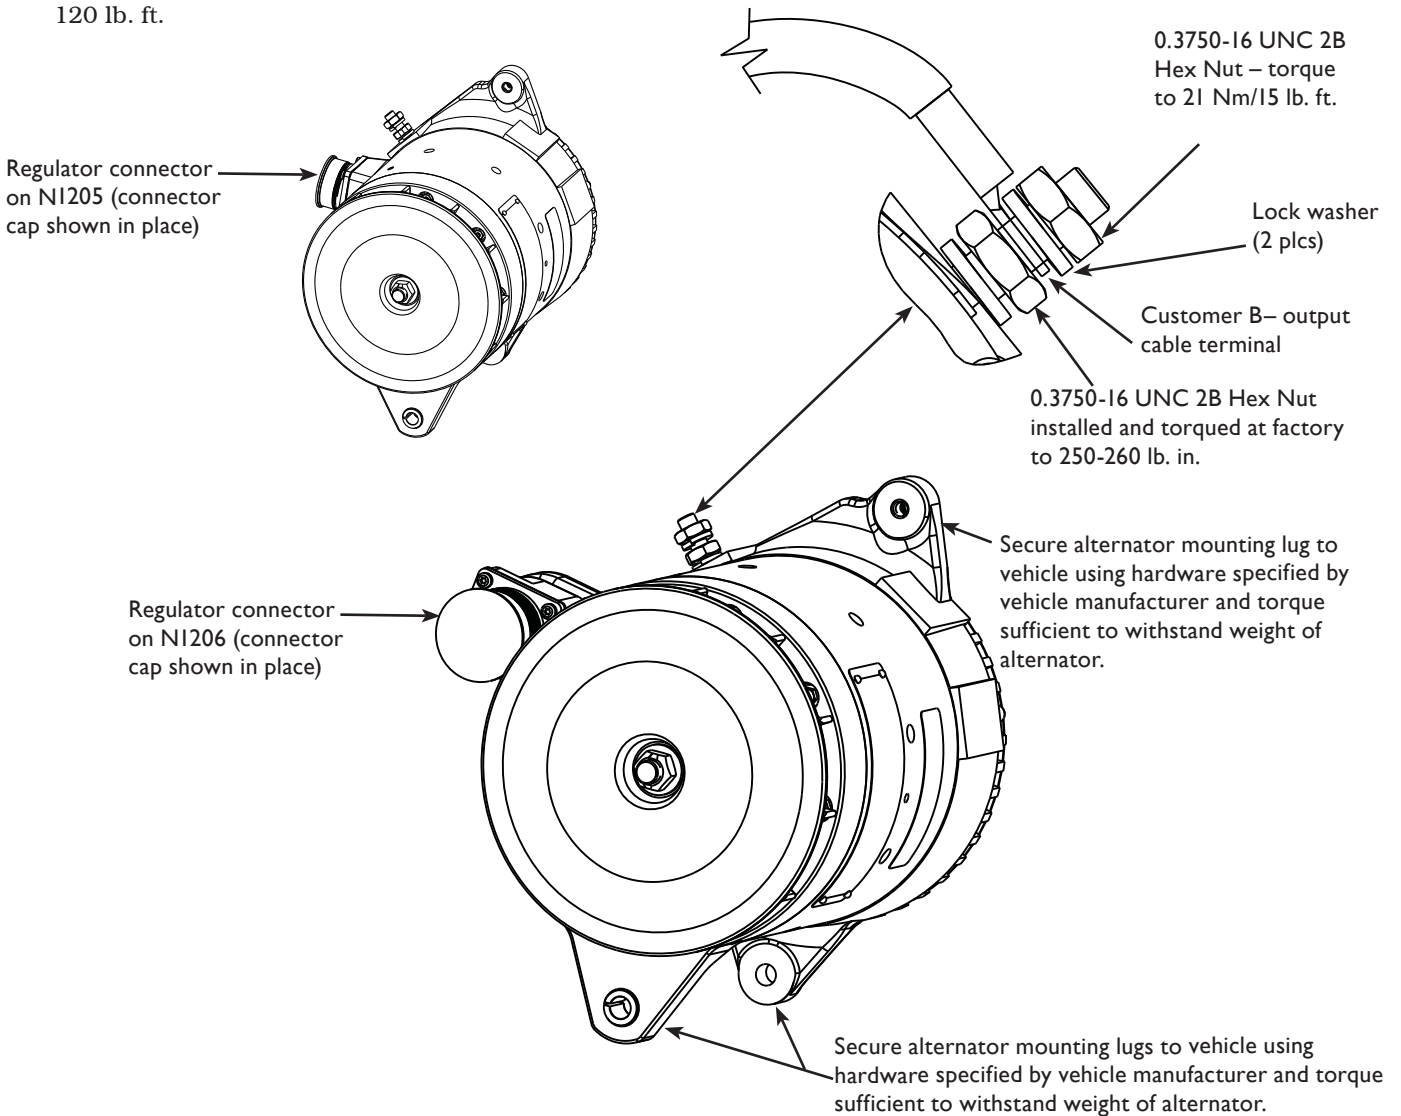

Figure 1 - Alternator Installation Details
Install alternator as shown in Figure 1:
2. Use hardened washers between aluminum surfaces and bolt heads and nuts. Torque mounting bolts as shown in Figure 1.
4. Choose wire gauge for B- cable capable of handling maximum alternator output with minimum voltage drop. See Figure 1 and 2 for B- connection.